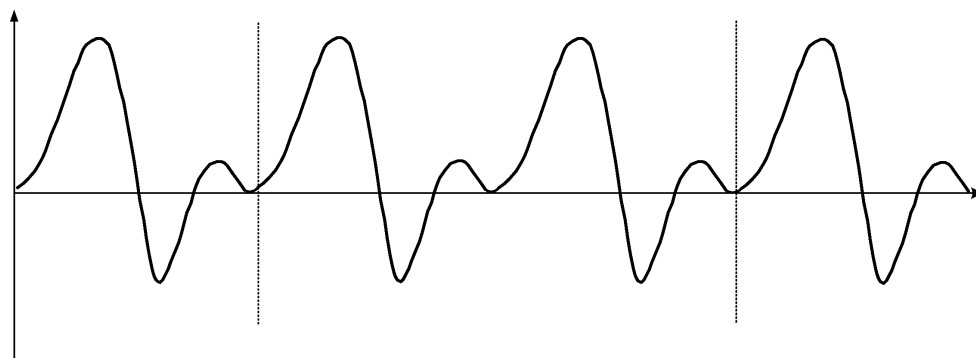

Figure 15-2. Measuring TAM on the Doppler spectrum.
- 2 Position 2 line markers to specify the time interval (number of cycles) over which the frequency values are averaged. (See Fig 15-2.)